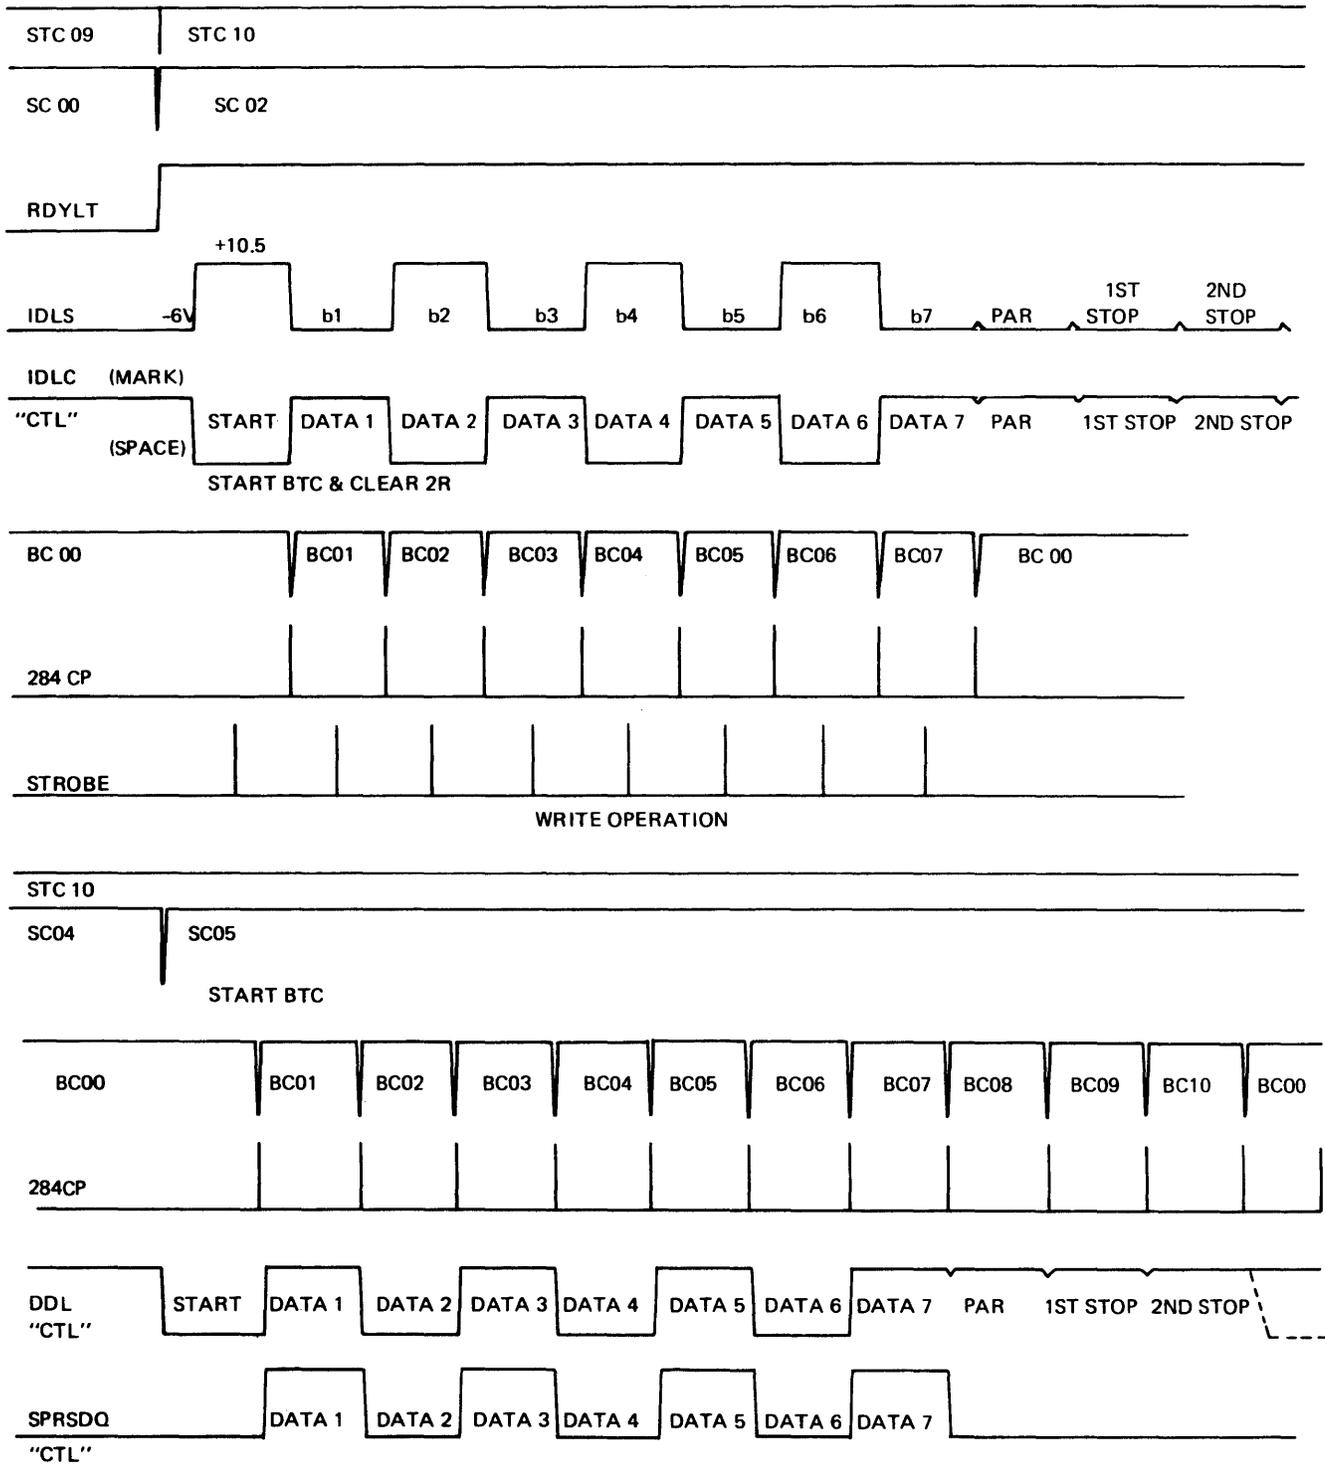

Fig. II-11
(Refer to Figure II-11)
Figure II-11 illustrates the timing of strobing the serial data bits (for one character from SPO) to the Input Register. The character illustrated is "U" whose ASCII code is 1010101 (b 1 - 7). Depressing the "U" Key will cause IDLC to go false. This starts the Bit Time Counter (BTC) and clears the Input Register. When BTC = 144 is true Strobe occurs. The Strobe which occurs when the start bit is present has no significance as the data bits are set in the Input Register when BC = 01 thru 07 is true. When BC = 07 is true and BTC = 283, the COUNT . . . Flip/Flop is reset which disables the BTC from being incremented with the 32us clock. IDLC is true when the parity and 1st and 2nd stop bit is received; however, as the strobe pulse does not occur and BC = 00 is true, the bits are not used in the control.
Figure II-11 illustrates the timing of gating the serial data bits (on character to SPO) from the output bit positions of the MOS Shift Register. The character illustrated is "U" whose ASCII code is 1010101 (b 1 - 7). When the write data is right justified in the MOS Shift Register, the Sub Counter (SC) is set to 05 and the BTC counter will start to count. When SC = 05 is true it forces ODL false thus the Start bit is sent to the SPO. When BTC = 284, 284CP is true and the BC counter is incremented by 1. When BC is equal to 01 thru 07 if the output bit position of the MOS Register which corresponds to the BC count is true, then SPRSDQ. is true. SPRSDQ. true causes ODL to go true thus a data bit (Mark) is sent to the SPO via ODLS. (ODLS = -6V for Mark). When the BC count is equal to 10 and 284CP is true, BC is cleared to zero.